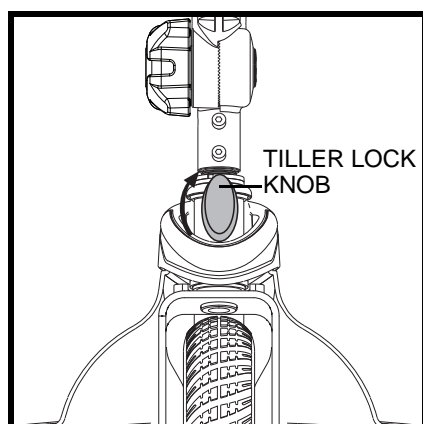

Figure 17. Tiller Lock knob (Locked)
2. Lock the tiller in the straight ahead position by pushing the tiller lock knob in and turning it clockwise 90°. See **figure 17**. The front wheel must face forward in order to lock the tiller.